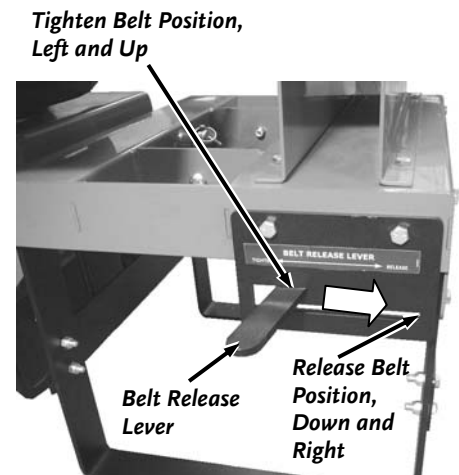
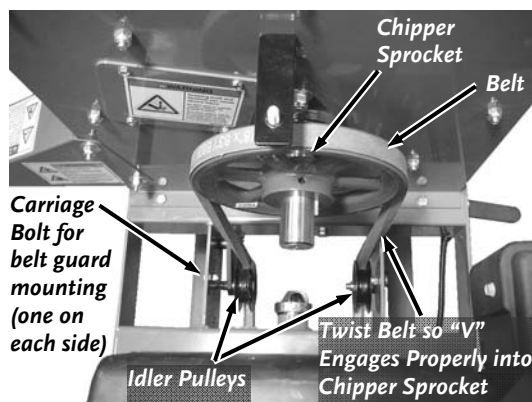

Figure 36
Figure 38
2. Make sure the Belt Release Lever is in the “Release” position (**Figure 36**).
5. Position the Belt onto the Field and Brush Mower Pulley (**Figure 36**) and then route it over the two Idler Pulleys and up around the Chipper Pulley (**Figure 38**).